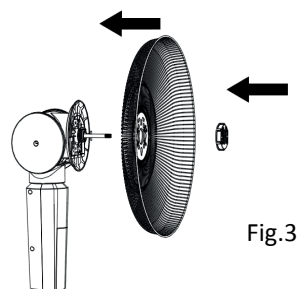

Fig.3
- c-. Amount the rear grill to the front cover of motor, and align the 3 positioning point to the holes on grill, finally fix by grill nut.(Figure 3)